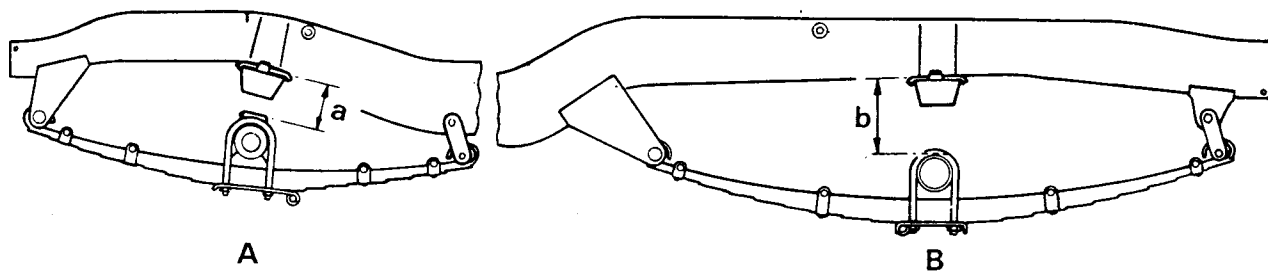

Fig I3.2
(1) Refer to Fig I3.2. Deflect the spring (A front spring, B rear spring) toward the chassis, using a suitable chain and lever, until the following dimensions are obtained.